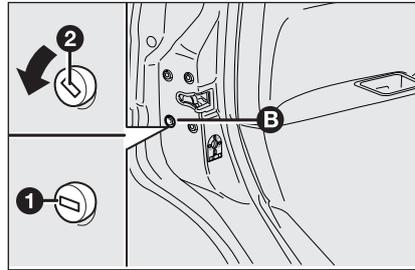

fig. 1
- insert the ignition key in lock **B**-**fig. 1**